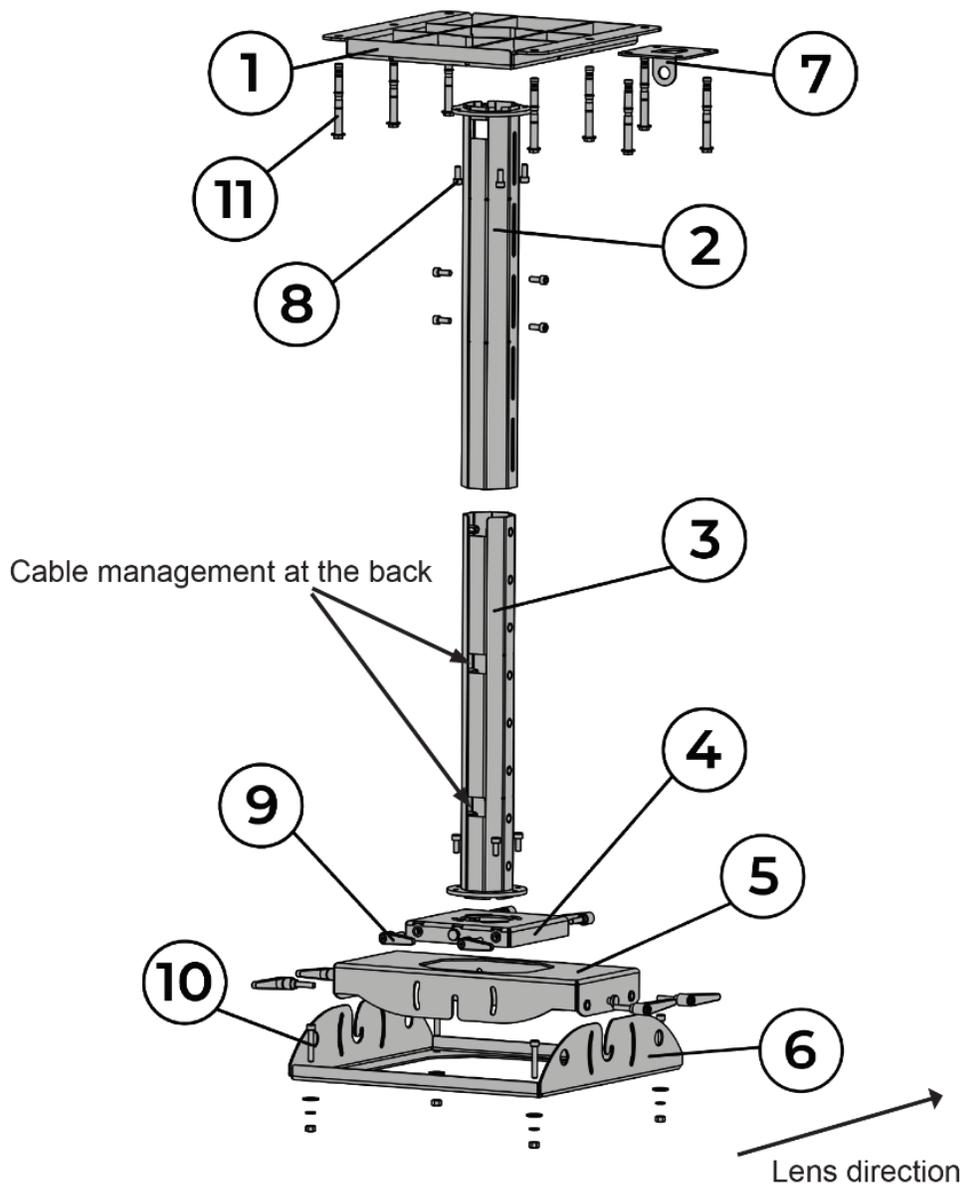

Figure 70:
The parts ① to ⑪ of the VM-1140 Ceiling Mount kit which are listed under **Table 10**, have been illustrated in **Figure 70** below. The remaining parts ⑫ to ⑭ have been illustrated separately in **Step 3B** and **Step 13** under **Section 10.5**.